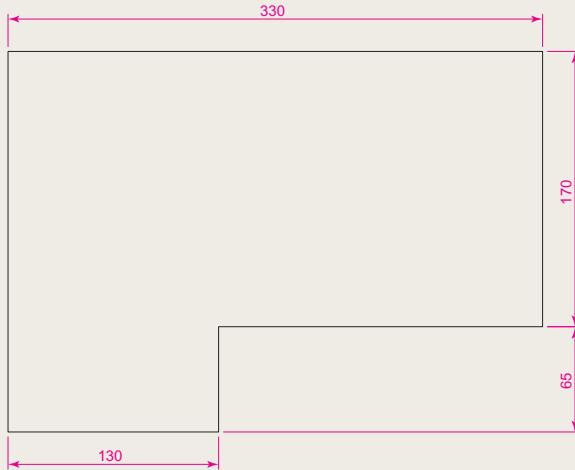
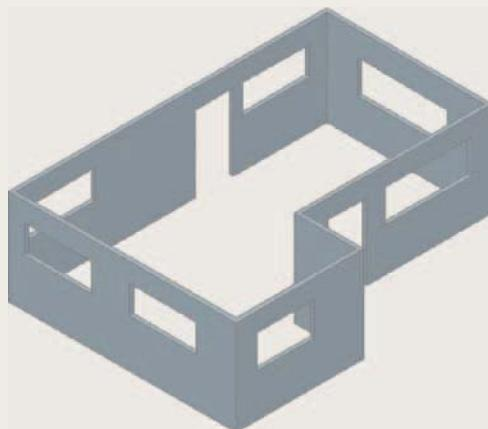

Fig. 12.45 Exercise 1 – outline for polyline
Fig. 12.46 Exercise 1 – polysolid outline
1. **Figure 12.45** shows the pline outline from which the polysolid outline **Fig. 12.46** has been constructed to a height of **100** and **Width of 3**. When the polysolid has been